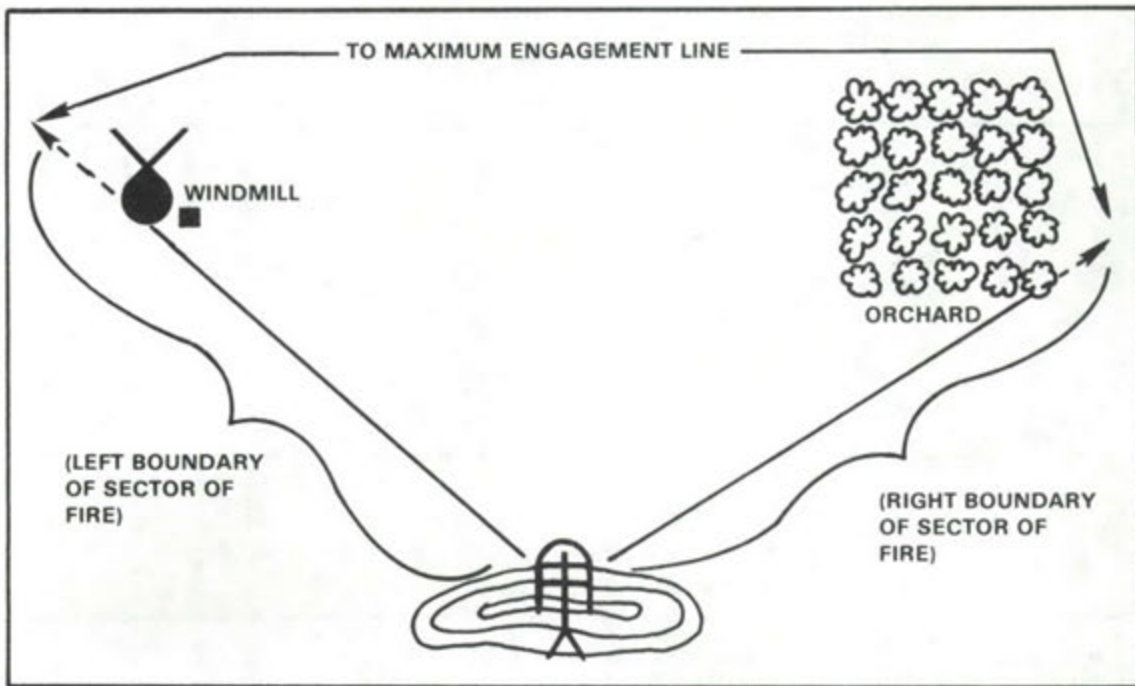

Figure 3.
(3) Draw and label sketches of terrain features which indicate the boundaries of your sector of fire. Draw lines from your weapon symbol to the terrain features (figure 3).
(4) Draw and label sketches of terrain features which include: